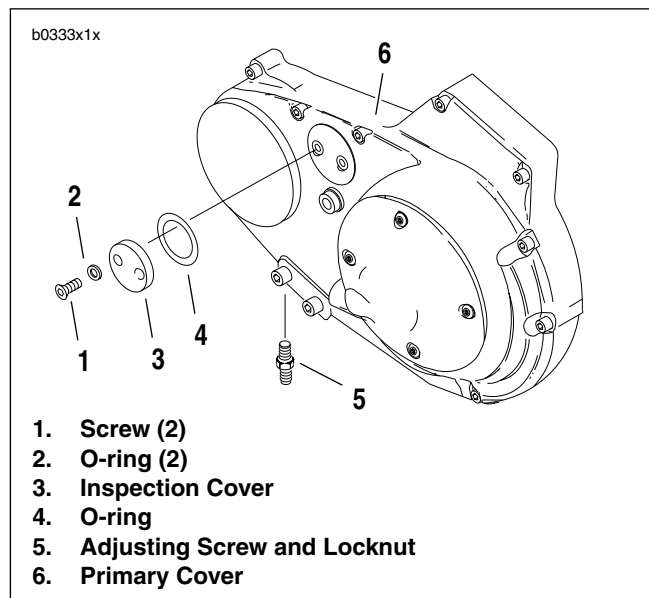
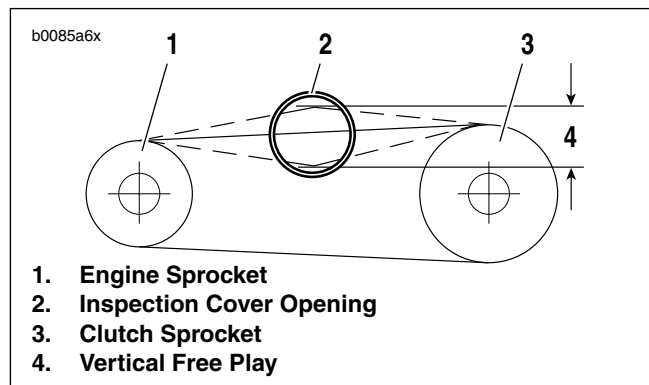

Figure 1-26. Primary Chain Inspection Cover
Figure 1-27. Measuring Primary Chain Tension
See Figure 1-26. Measure primary chain tension through the inspection cover (3) opening. Adjust primary chains not meeting vertical free play specifications.
1. See Figure 1-26. Remove two screws (1) and O-rings (2).
2. Remove inspection cover (3) and O-ring (4) from primary cover (6).
3. See Figure 1-27. Check primary chain tension by measuring vertical free play (4).
- a. Measure vertical free play through inspection cover opening (2).
5. See Figure 1-26. Install O-ring (4).
6. Fasten inspection cover (3) to primary cover (6) using two screws (1) with O-rings (2). Tighten to 40-60 **in-lbs** (5-7 Nm).